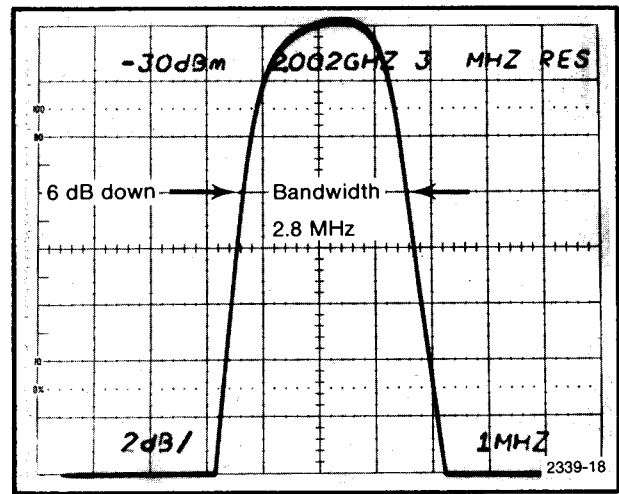

Fig. 4-4. Display Mode Log.
c. Measure the 6 dB bandwidth (see Fig. 4-4). Bandwidth must equal 3 MHz  $\pm 600$  kHz.